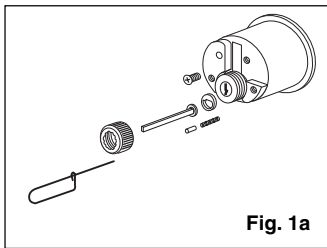

Fig. 1a
- c. Using phillips head screwdriver, remove screw holding cylinder plug in place. Remove cylinder plug from lock assembly. (Fig. 1a)